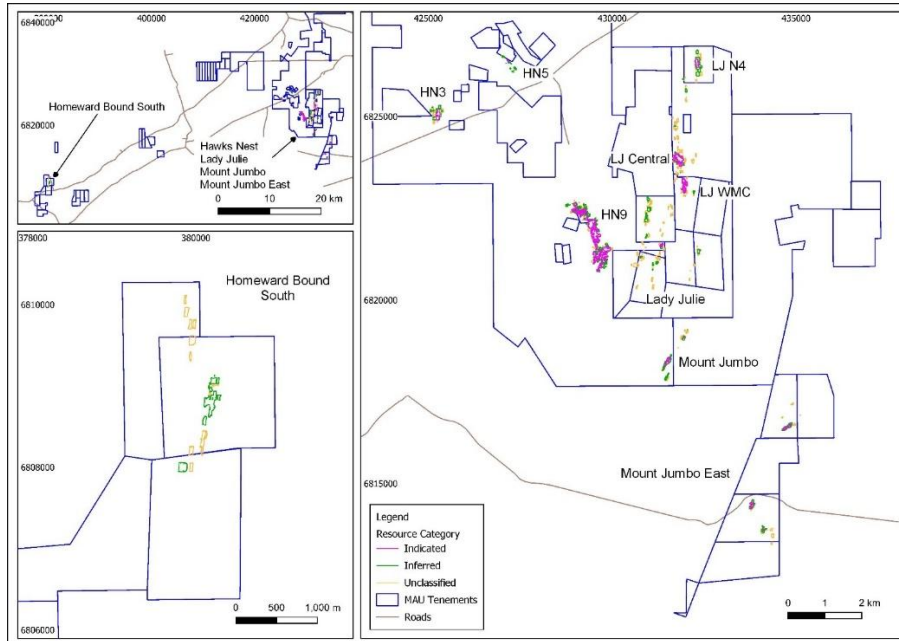

Figure 1a. Overview of Magnetics Laverton Region Resources
- A Mining Proposal has been submitted to DEMIRS for approval. The proposal is in support of the application for two new Mining leases and a new Miscellaneous lease covering the remainder of the project footprint (see Figure 1a and b). The combined project area of 1,424Ha is now under application.